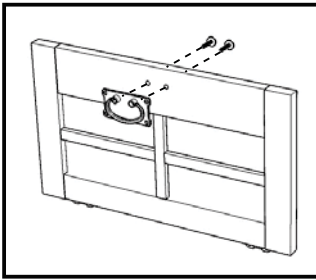

Figure 5
Attach Pull Handles to Doors (J) and (K) with Machine Screws. (See Figure 5)